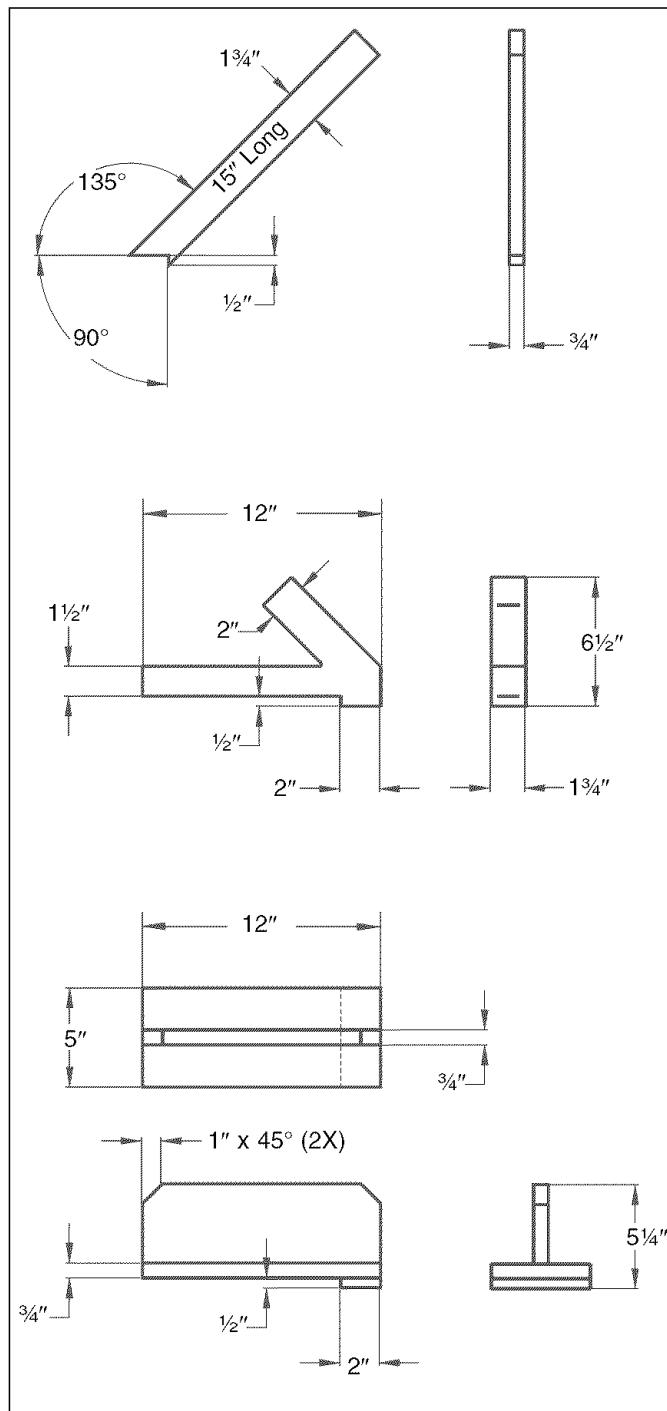

Figure 1a - Push Sticks and Push Blocks
- During rip and rip-type cuts, workpiece must be held down on table and against fence with a push stick, push block, or featherboards, as applicable (see Figures 1a and 1b).